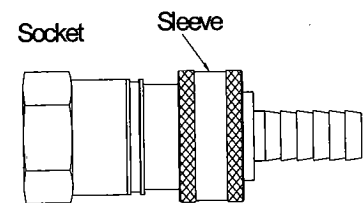

Fig. 41
3. Push plug until sleeve snaps forward (Fig. 41). (Gas will flow automatically. Failure to connect plug properly to socket will inhibit gas flow to the appliance.)